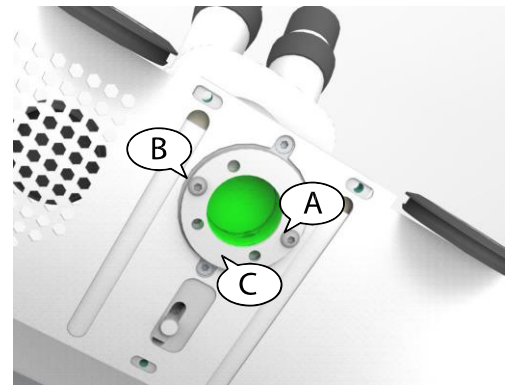

Figure 33
- Take the screws (Ref.A B figure 33) out of the supporting locknut;
- Detach the locknut (Ref. C Figure 33) from the optical body and then take out the glass.
- Reinsert the new/clean glass in its housing and carefully position the locknut, tightening it with the two screws (Ref.A B figure 33).